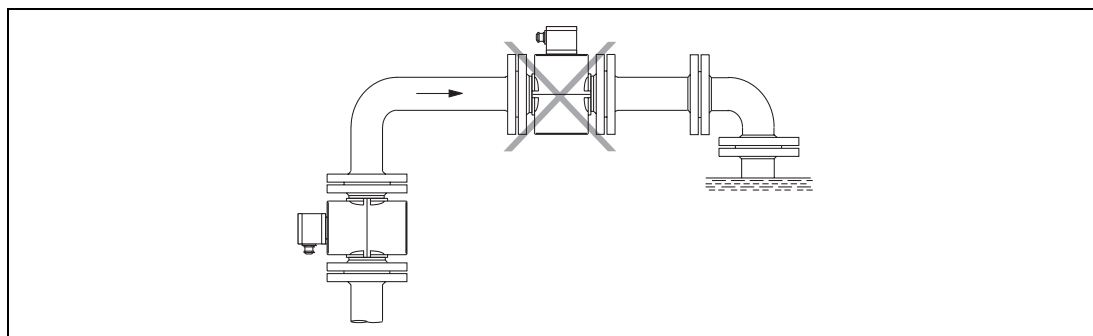

Fig. 12:
- For a free outflow applications do not install flowmeter at the highest point in the pipeline (meter pipe may empty, air bubbles), Fig. 12.